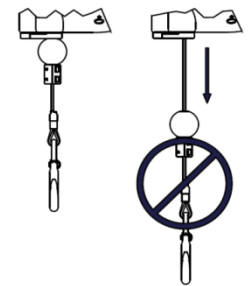

Fig. 03
- Lift LOAD [See - Fig. 03] to retractor and attach it to provided hook, making sure the spring-loaded latch of hook is fully closed.